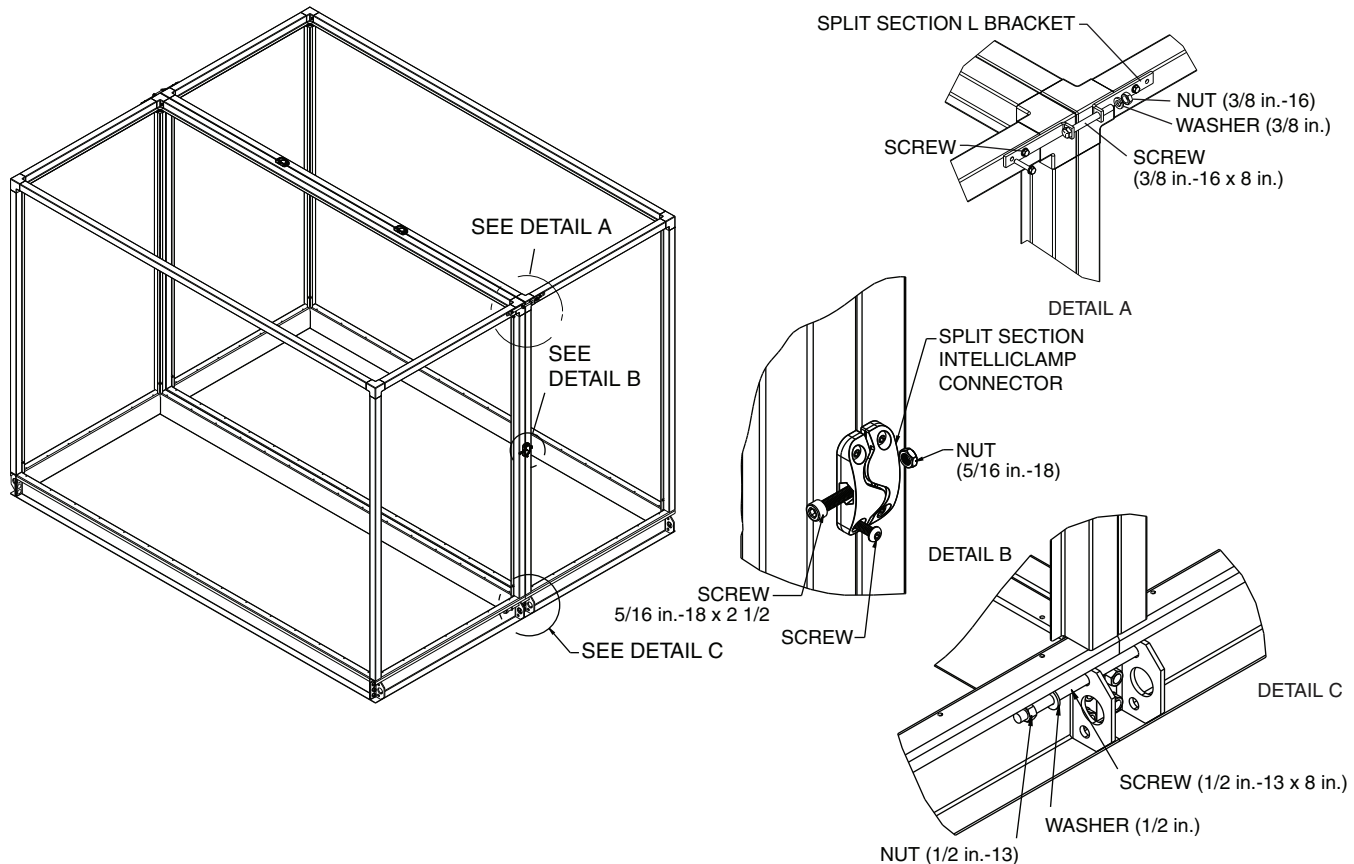

Fig. 30 — Attaching Split Sections — Non-Stacked Units and Lower Level of Stacked Units
9. Pull baserails to contact bottom lifting lug connection. Do not fully tighten. See Fig. 30, Detail C.
10. Align top brackets. Start the screw, but do not fully tighten. See Fig. 30, Detail A. For outdoor units, removal of the roof at the split is necessary to access the top brackets.
11. On side of unit, when Intelliclamp connectors are present (sizes 36 and larger only), align Intelliclamp connector, start the screw, but do not fully tighten. See Fig. 30, Detail B.